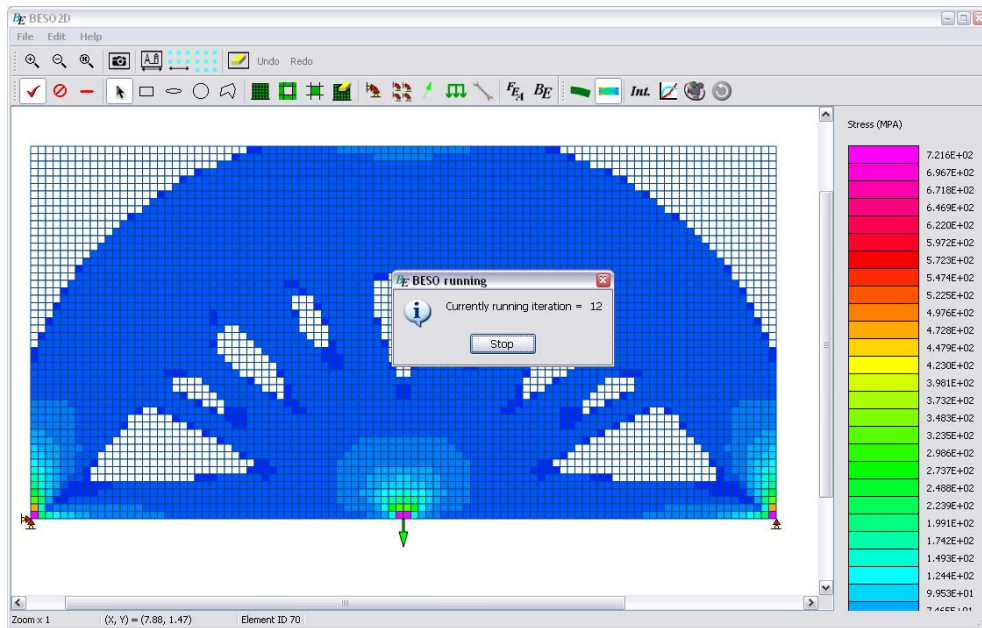

Figure 7 An intermediate design during the optimization process.
- After the pre-processing, the “BESO running” message box will display information indicating the current iteration number. During the optimization process, the intermediate designs are shown in the display area. Note that if the  button is pressed down, the real-time stress distribution will be displayed on the structure like Figure 7. The user can see how the structure is evolving on the screen.